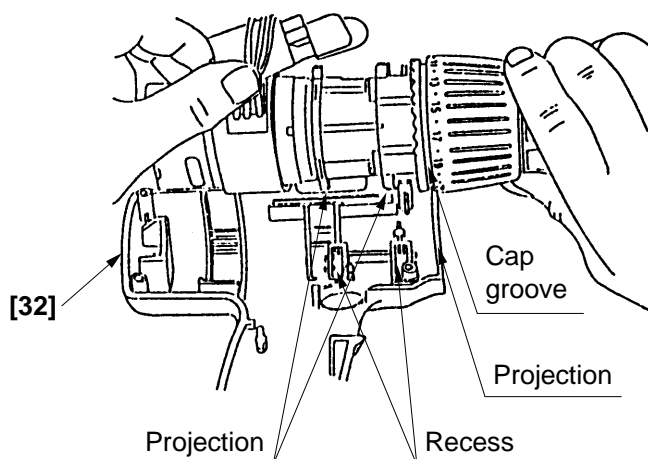

Fig. 18
- (g) Install the assembly from (e) into Housing (A) [32]. Note that the projections on the Front Case [9] and the Motor Spacer [25] are engaged in the recess in Housing (A) [32] and the projection on Housing (A) [32] is engaged in the groove in the Cap [4]. (See Fig. 18)